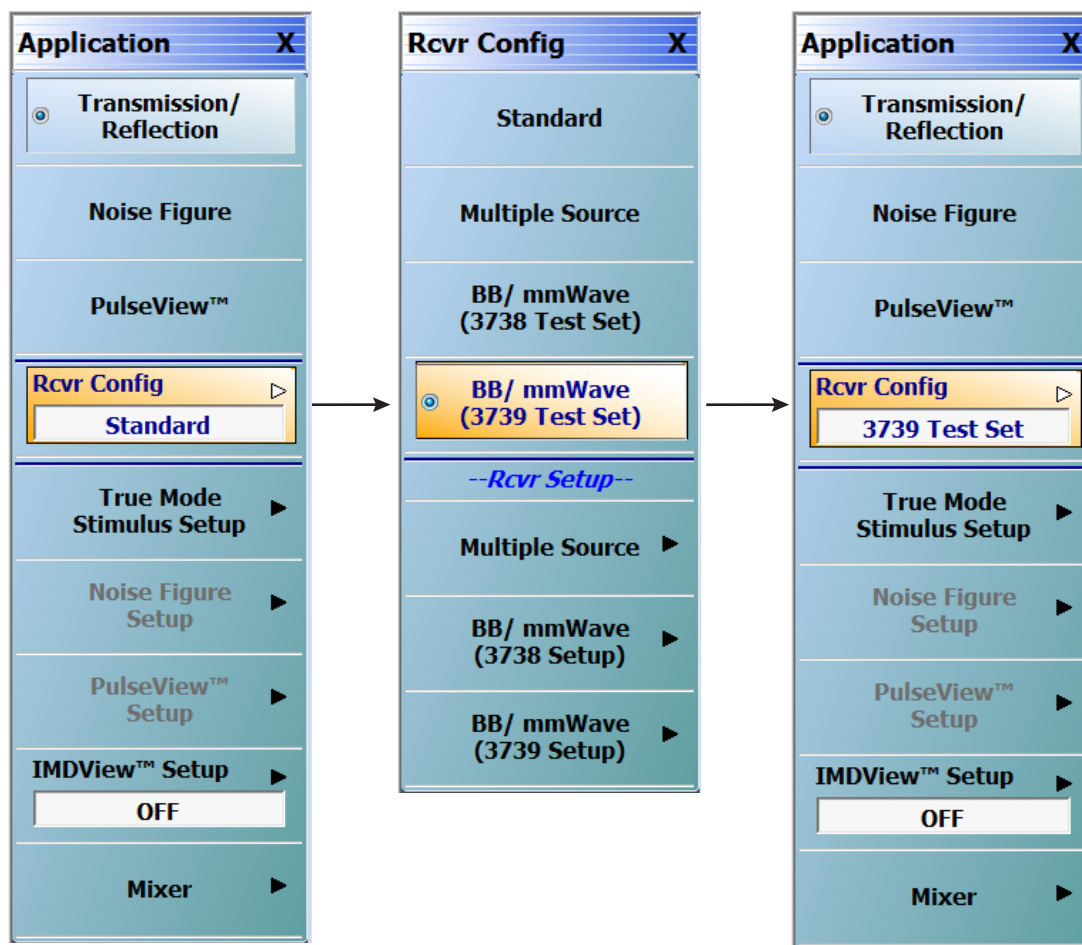

Figure 5-1. APPLICATION Menu – Receiver Configuration to 3739 Test Set
3. At the MAIN menu, select Application. The APPLICATION menu appears as shown in Figure 5-1 on page 5-2.